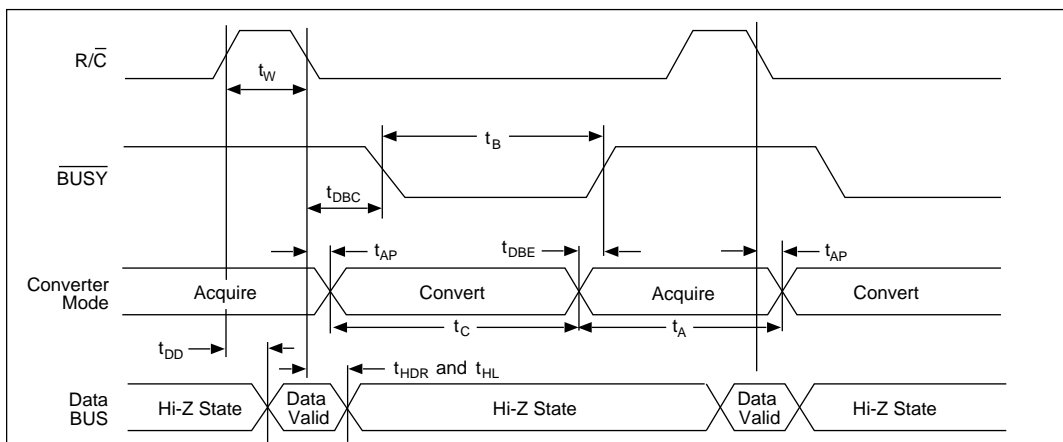

Figure 6. Read Mode Timing —  $\overline{R/C}$  Pulse HIGH, Outputs Enabled Only When  $\overline{R/C}$  is High
*Figure 6* illustrates the timing when conversion is initiated by a positive R/C pulse. In this mode (Read Mode), the output data from the previous conversion is enabled during the HIGH portion of R/C. A new conversion starts on the falling edge of R/C, and the three-state outputs return to the Hi-Z state until the next occurrence of a HIGH on R/C.